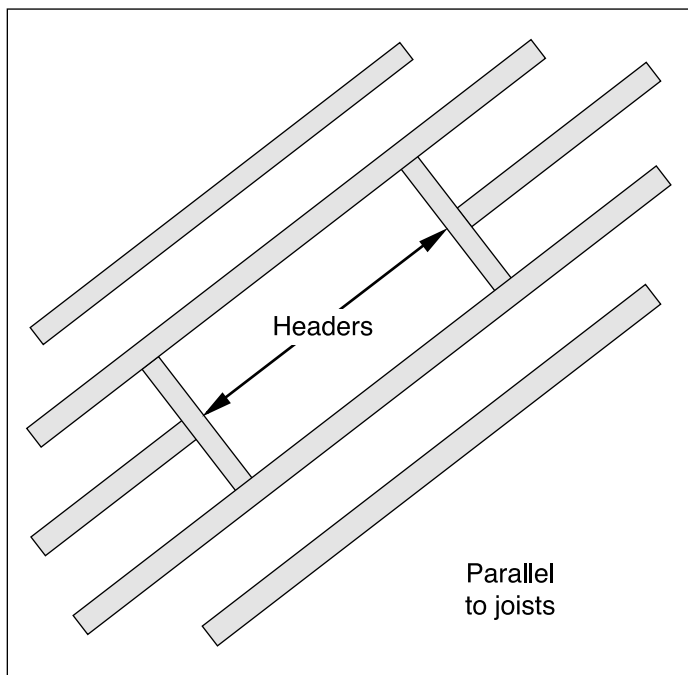

Figure 3
- * Cut and securely nail headers (blocking) of the same joist dimensions to the joists as shown in Figures 3 and 4. Be sure to nail all cut joists to headers. When installing perpendicular to joists as in Figure 4, it is advisable to double up the headers for more strength and rigidity.